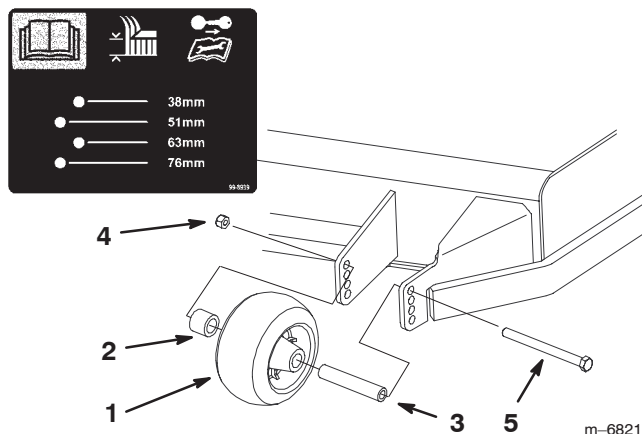

Figure 18
2. After adjusting the height-of-cut, adjust the rollers by removing the flange nut, bushing, spacer, and bolt (Fig. 18).
3. Select a hole so the anti-scalp roller is positioned to the nearest corresponding height-of-cut desired (Fig. 18).
4. Install the flange nut bushing, spacer, and bolt. Torque to 40–45 ft-lb (54–61 N·m) (Fig. 18).